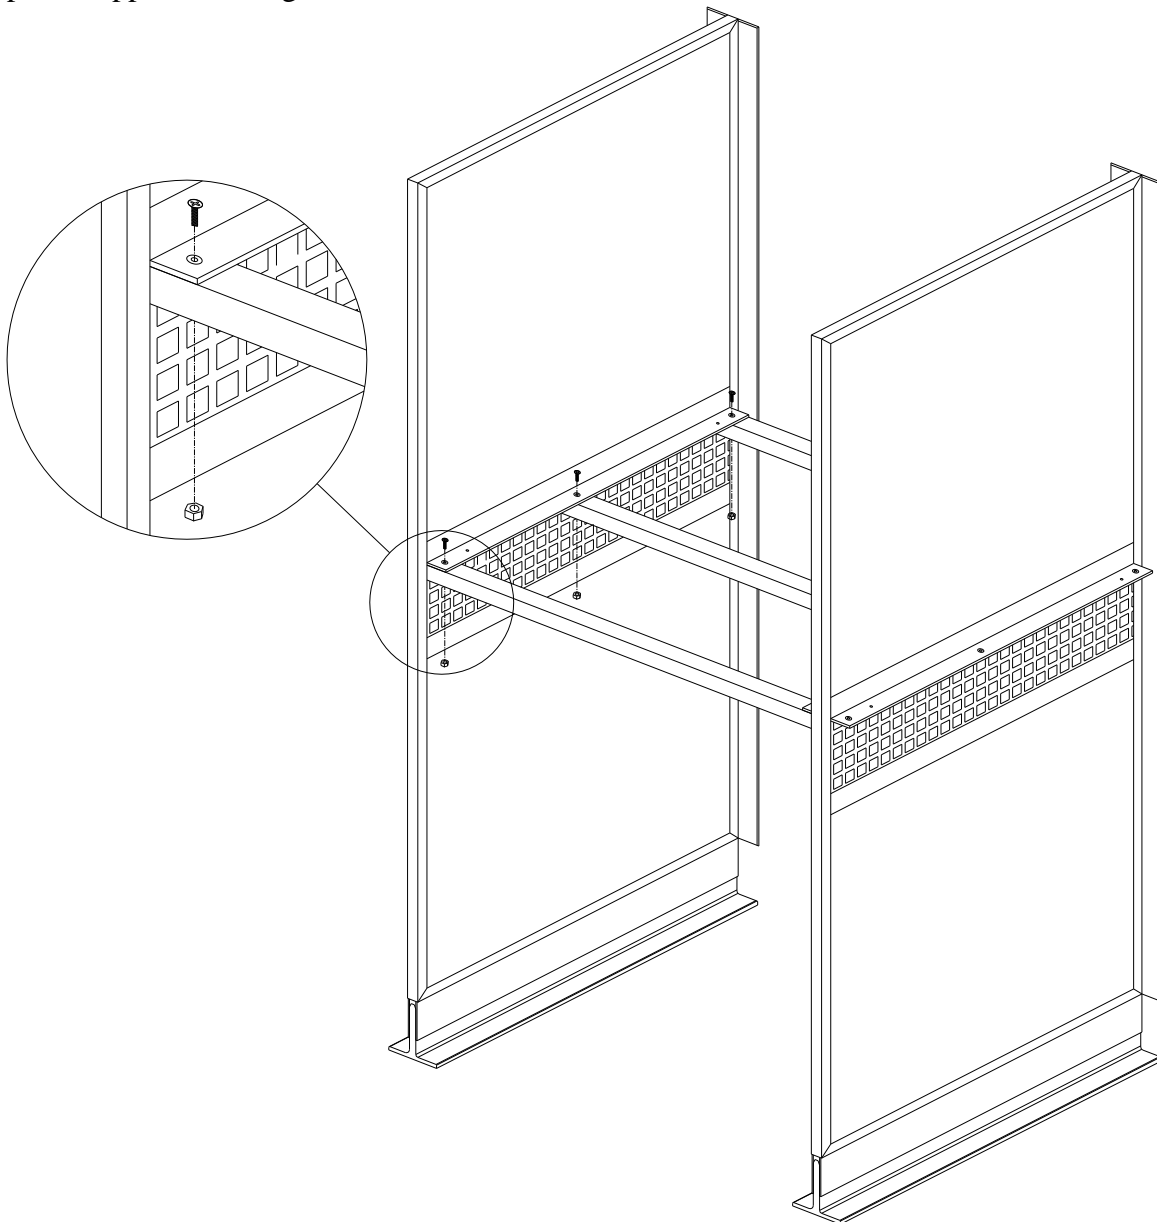

Figure E.1
1. Clamp the aluminum cross braces in place so that they are lined up under the holes that you marked in step 1. (Figure E.1)